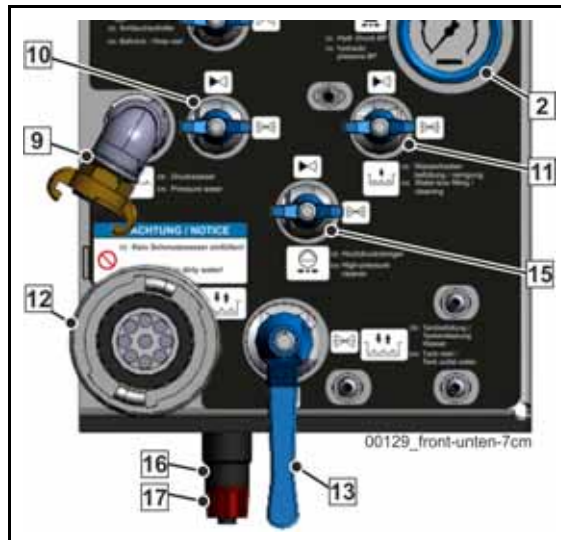

Fig. 439
- Lock the connection to the water case by switching the ball valve (15) (**Fig. 439**) on the supply control.